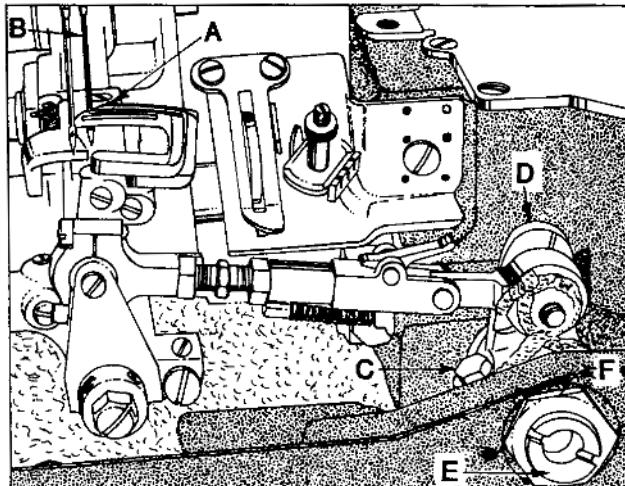

Fig. 4
Insert looper into the looper rocker, pushing it all the way down and tighten screw against f lat on shank of looper. Turn handwheel in operating direction until the point of the looper (A, Fig. 4) moving to the left, is even with the left side of the right needle (B). Note the height of the eye of the needle with respect to the looper point (See Fig. 5) . Turn the handwheel in the reverse direction until the point of looper, again moving to the left, is even with the left side of right needle (See Fig. 5). If the height of the eye of the needle with respect to the looper point are the same, looper and needle motions are synchronized. A variation of .005 inch (.127 mm) is allowable. If the distance from the eye of the needle to the point of the looper is greater when the handwheel is turned in the operating direction, the looper drive lever rocker shaft will have to be moved slightly towards the rear. Moving the shaft towards the front acts the reverse.
Loosen screw (C, Fig. 4) in looper drive lever (D). A rod of .146-40 thread or Union Special Screw No. 22870A can be threaded into the looper drive lever rocker shaft through the center of thrust adjusting screw (E). Tap or pull slightly as required to position shaft for proper synchronization. Tighten screw (C) securely and remove rod or screw used to position shaft. Loosen lock nut (F) and torque thrust adjusting screw (E) to 6 in. lbs. (7cm/kg); retighten lock nut (F) securely.